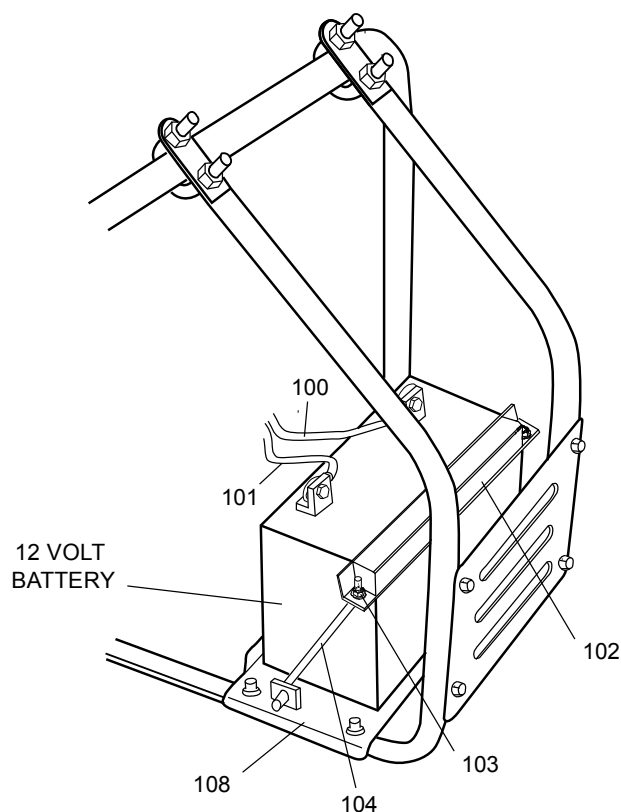

Figure 6-1: Replacing Battery
- A. Refer to Figure 6-1. Remove two nuts (103) from bolts (104). Remove plate (102) and two bolts (104) from battery plate (108).
- B. Place plate (108) on battery, being careful not to contact the battery terminals.
- C. Insert L-shaped ends of bolts (104) in holes in plate (108) in base of battery enclosure.